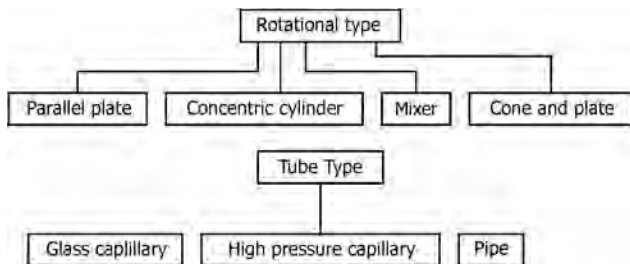

FIGURE 1.2 Classification of viscometers.
- Figure 1.2 gives subgroups of viscometers under the above classification.